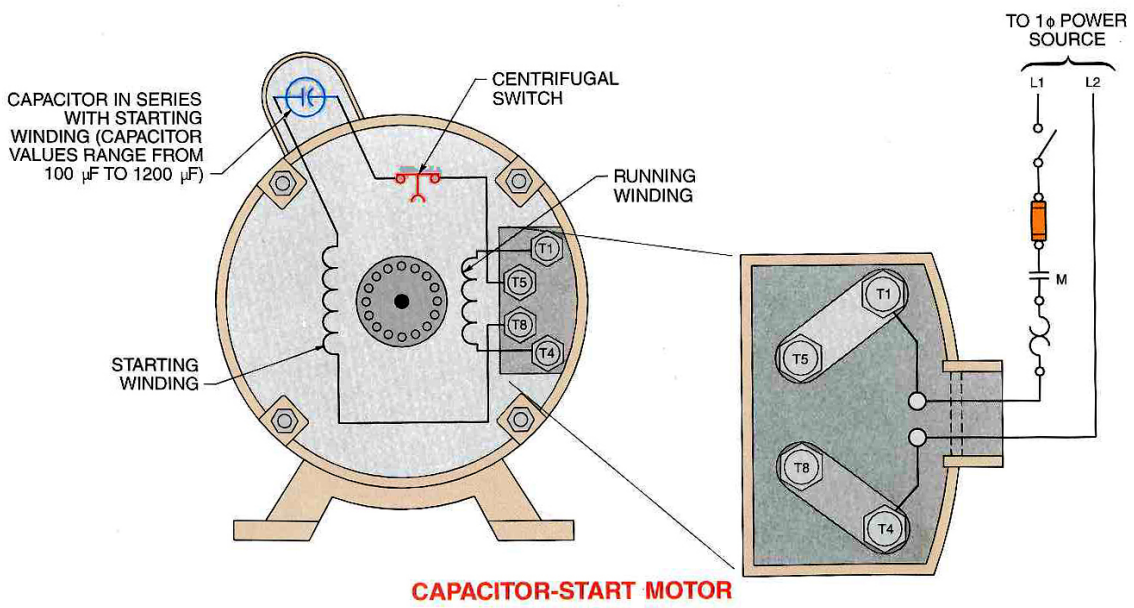

Figure 5.3: Capacitor Start Motor
The motor used in this lab is a single phase capacitor start motor. The motor utilizes two windings, a **start winding** and a **run winding**. The start winding is wired in series with a capacitor and a centrifugal switch as shown in Figure 5.3. The capacitor causes the current in the start winding to lead the current in the run winding.
6. What is the purpose of the jumpers between terminals T1 and T5, and T4 and T8 in the right hand diagram in Figure 5.3.